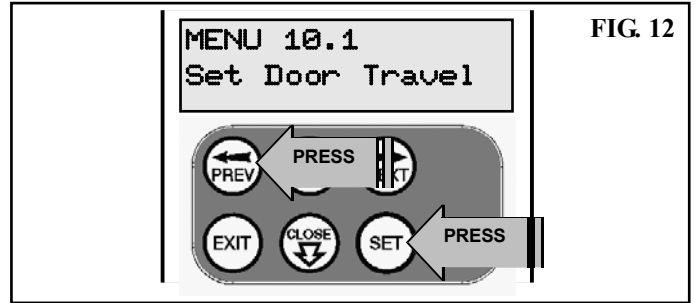

FIG. 12
1. Press PREV to navigate to the Menu 10 (Fig. 12).